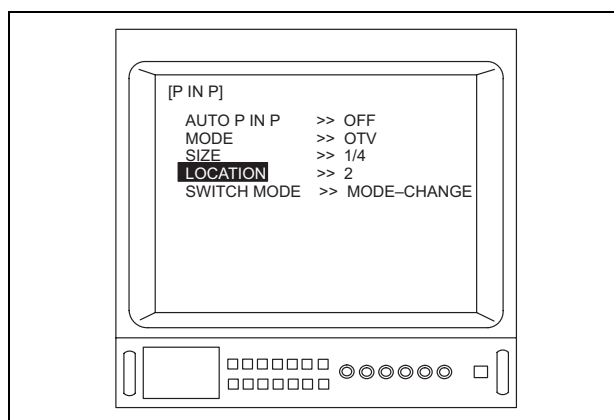

Figure 5.126
7. Depress the menu switch “◀” or the “Enter” key on the keyboard to adjust the “LOCATION” (see Figure 5.126).